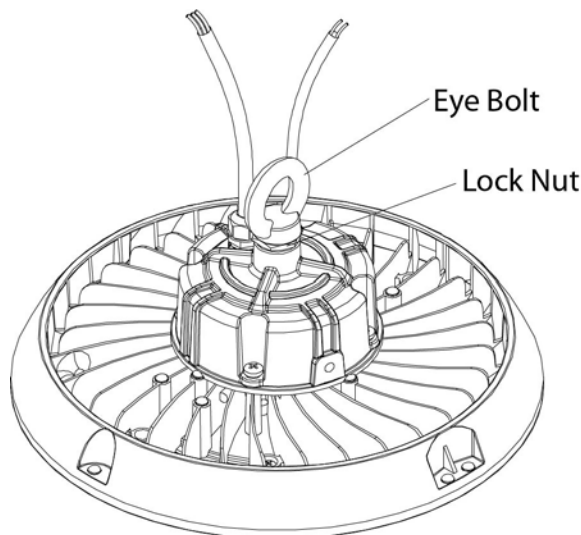

Figure 1
2.1.1 Standard Mounting type (Eye Bolt Suspended) (see figure 1). Install the enclosed eye bolt hook into the top of the luminaire housing, and tighten securely. Tighten the lock-nut to prevent the eyebolt from loosening. (See Figure 1).